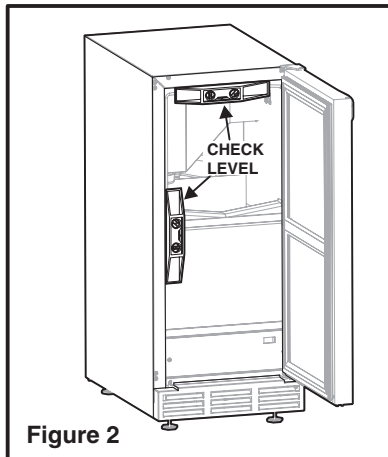

Figure 2
1. Use a level to check the unit from front to back and from side to side. **See Figure 2.**